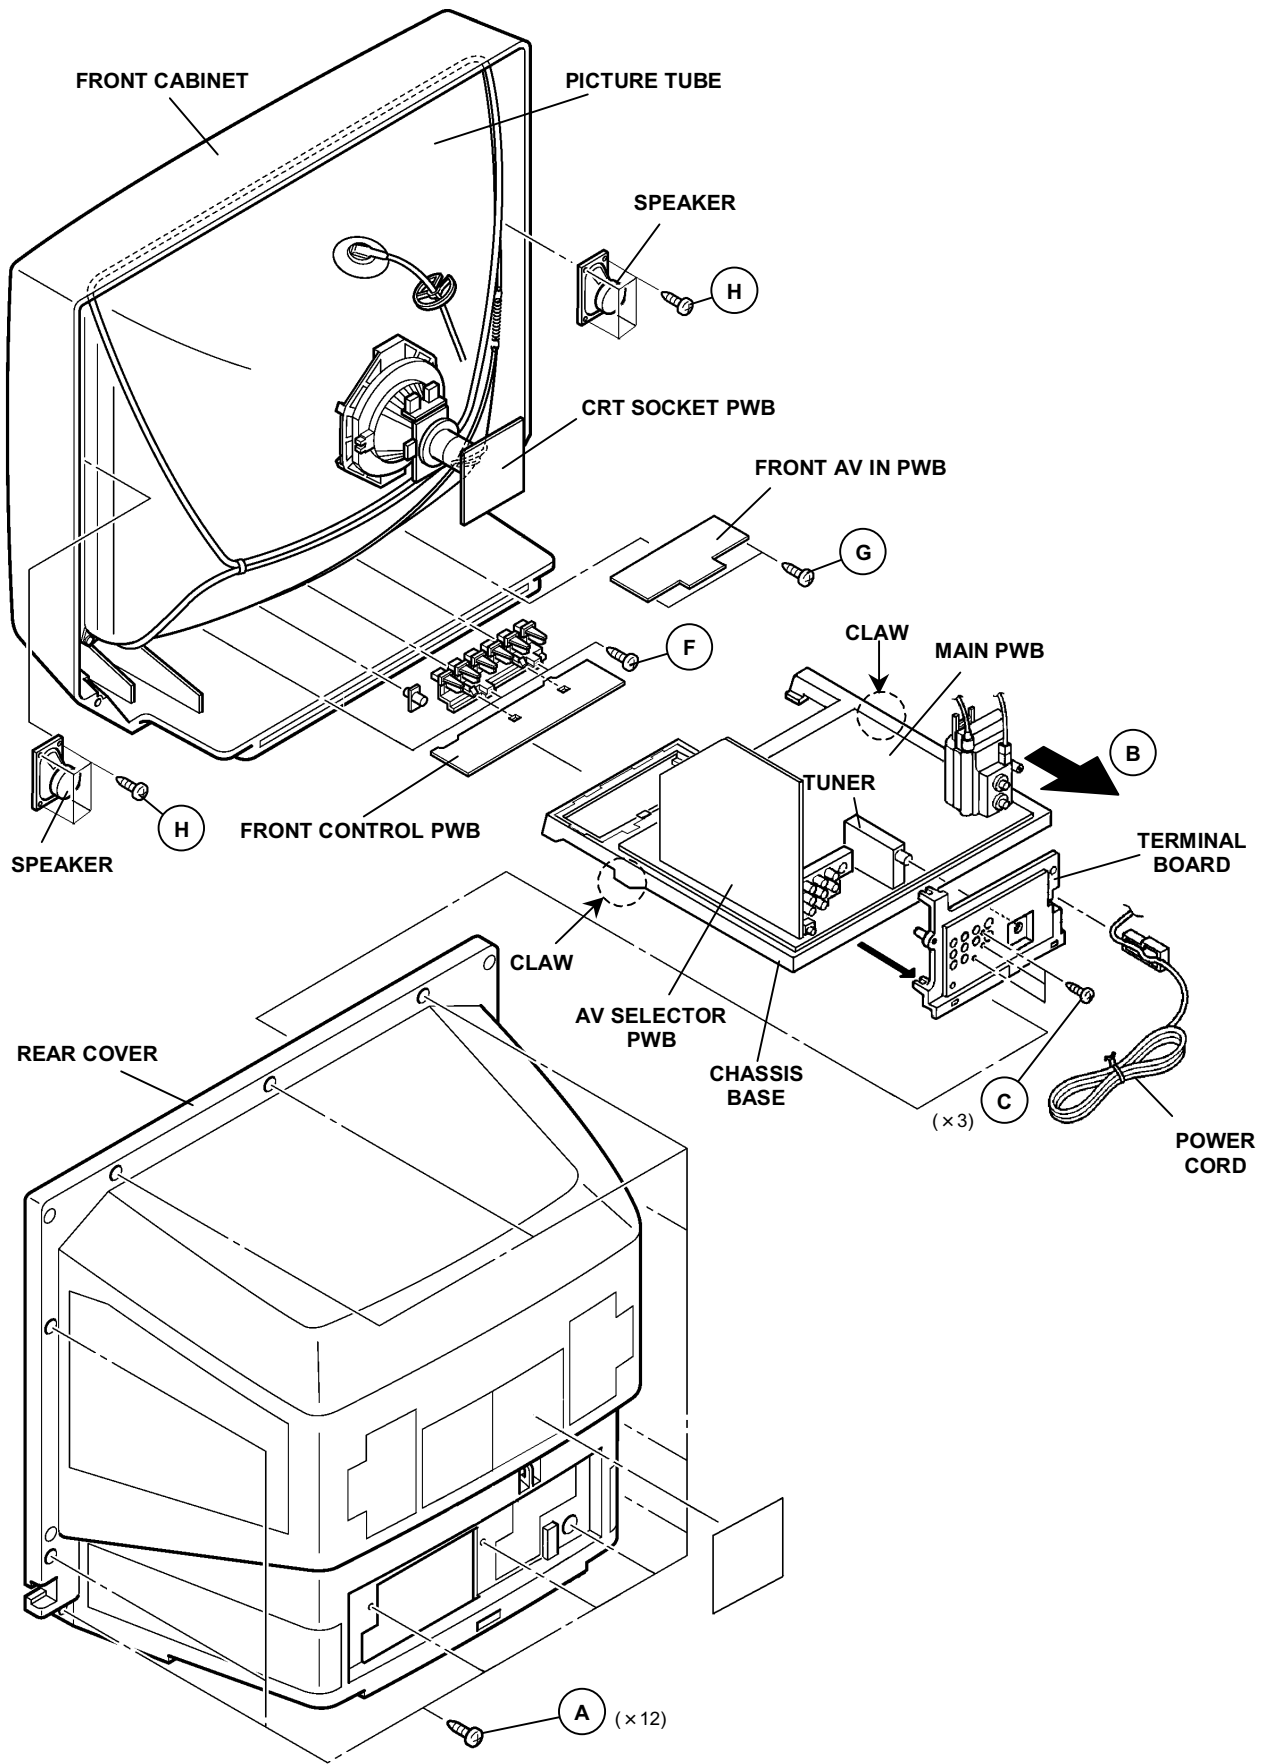

Fig. 2
1. Remove the **12** screws marked **(A)** as shown in Fig.2.
2. As shown in the Fig.2, withdraw the chassis backward along the rail in the arrow direction marked **(B)**.
1. As shown in Fig.2, remove the **3** screws marked **(C)**.
1. As shown in Fig.2, remove the **3** screws marked **(F)**.
1. As shown in Fig.2, remove the **2** screws marked **(G)**.
1. As shown in Fig.2, remove the **4** screws marked **(H)**.